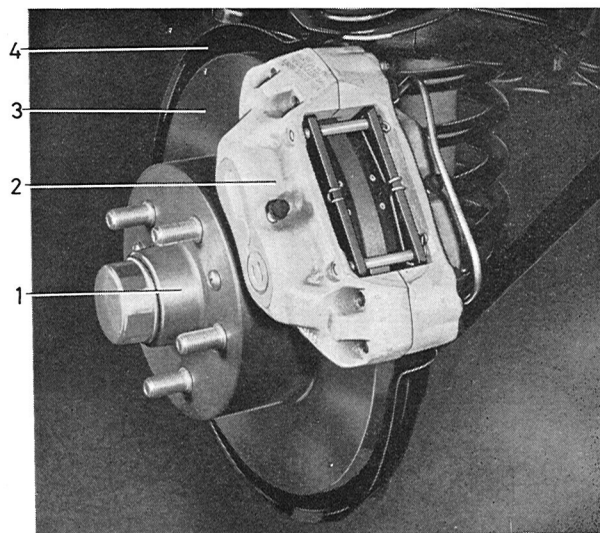

Fig. 5-7. Brake components, front wheel
Fig. 5-7 shows how the brake components are located at the front wheels. The disc (3) is of cast iron and is attached to the wheel hub with which it rotates. The cover plate (4) protects the disc from dirt. Mounted on the stub axle is the front wheel brake caliper (2) which houses the wheel unit cylinders and brake pads.